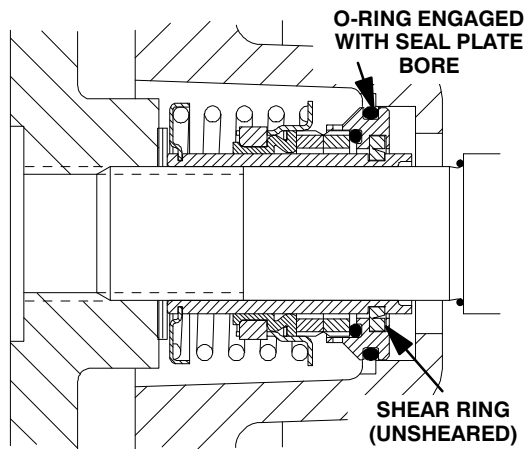

Figure 9. Seal Partially Installed
Clean and inspect the impeller as described in **Impeller Installation and Adjustment**. Install the full set of impeller shims (29) provided with the seal, and screw the impeller onto the shaft until it is seated against the seal (see Figure 9).